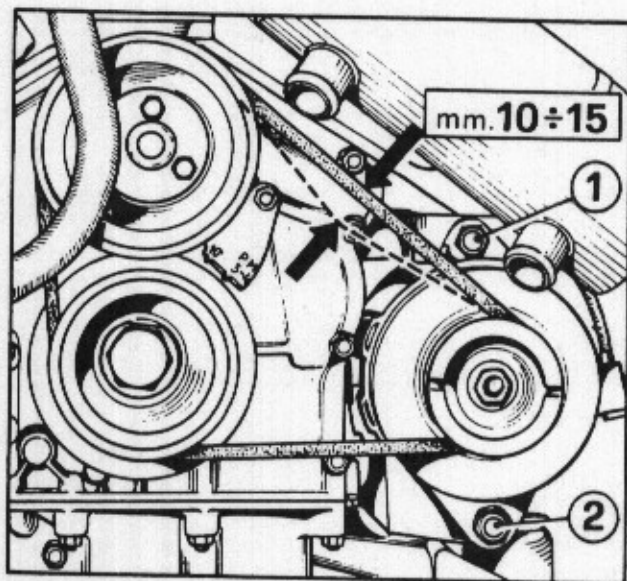

Fig. 37. Belt tension adjustment.
- Loosen nuts 1-2 (fig. 37) of the alternator fastening bolts at the mounting posts.